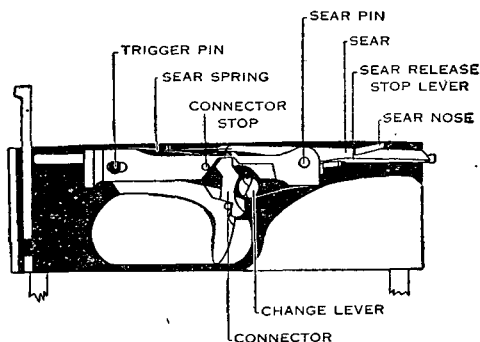

FIGURE 12.—Wooden working model showing trigger action.
b. Action.—(1) When the automatic rifle is fired at the slow cyclic rate, the buffer head and sear release, struck by the rear end of the slide, move to the rear. The buffer head forces the friction cups over the cones, causing them to expand tightly against the tube, consequently producing considerable friction as the cups move back and compress the buffer spring. Thus the rearward action of the slide is checked gradually and there is practically no rebound. The buffer spring returns the buffer head and friction cups and cones to their original positions. After striking the buffer head and sear release, the slide moves forward until it is engaged by the sear. The delayed release of the sear is then accomplished as follows: The sear release when struck by the slide in turn strikes the actuator in the buffer. The actuator is driven to the rear inside the actuator tube against the actuator spring. It returns under the force of expansion of the actuator spring to drive the sear release forward against the camming surface on the rear of the sear, thus releasing the sear and permitting the rifle to continue its cycle.
(2) When the rifle is fired at the normal cyclic rate, the functioning of the combination buffer and rate reducing mechanism is the same as explained for the slow cyclic rate in (1) above except that the sear release is prevented from engaging the camming surface on the rear end of the sear by the sear release stop lever.
■ **23. FUNCTIONING OF TRIGGER MECHANISM.**—*a.* The trigger mechanism (fig. 12) has three settings: